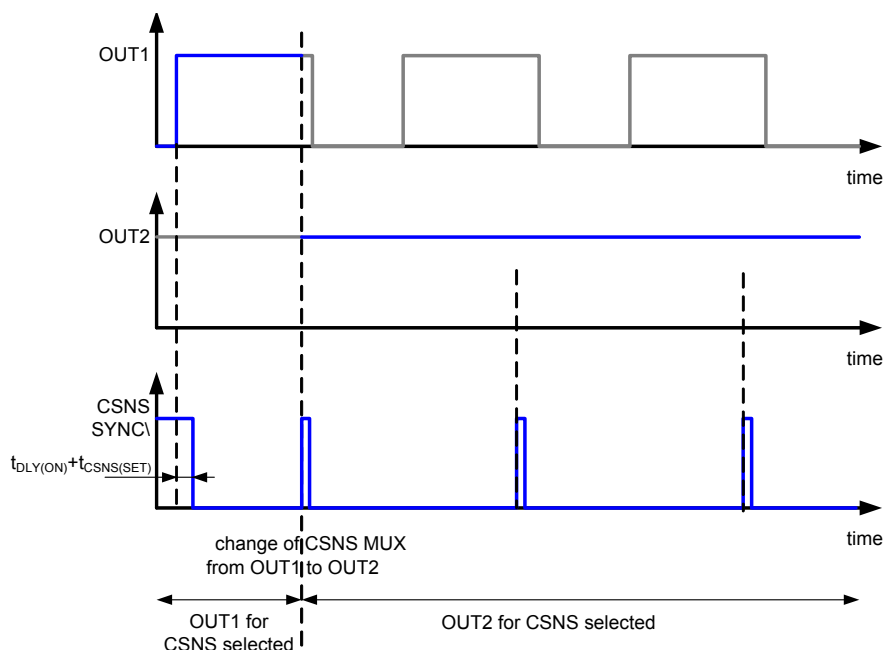

Figure 33. CSNS SYNC\ When the Output is Programmed with 100%
- when the output is programmed with 100% PWM, the CSNS SYNC\ delivers a logic[0] a high pulse with the length of 100 μ s typ during the PWM counter overflow for TRIG0 and TRIG1/2 settings, as shown in Figure 33